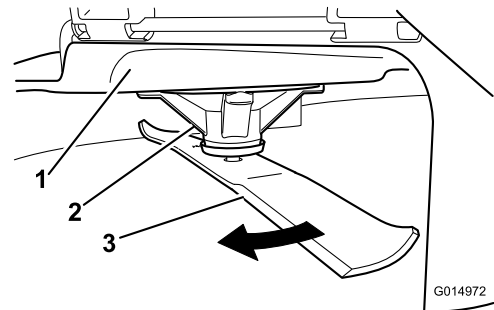

Figure 71
2. While wearing thickly padded gloves, or other adequate hand protection, slowly rotate the blade into a position that allows you to measure the distance between the cutting edge and the level surface the machine is on (Figure 71).